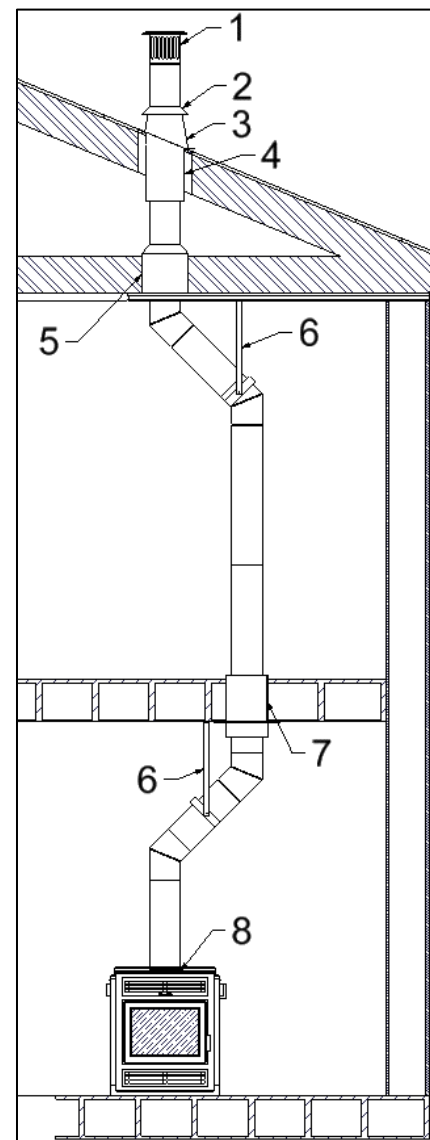
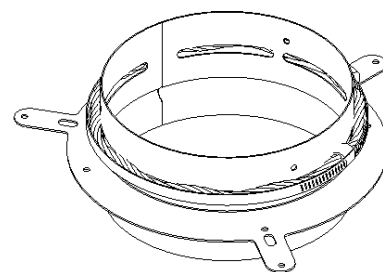

Figure 3-7: Standard Offset Installation
Figure 3-8: 6CON Liner Connector
The Astra 18 fireplace can be connected to a masonry chimney that complies with current national and municipal building codes. A 6 inch chimney liner that complies with ULC S635 M2000 (Canada) or UL 1777 (US) standards must be installed within the existing masonry chimney. Note that the 6CON connector (manufactured by SUPREME FIREPLACES INC.) must be installed to connect the prefabricated chimney to the liner (6CON sold separately). Refer to Figure 3-7 and Figure 3-8.